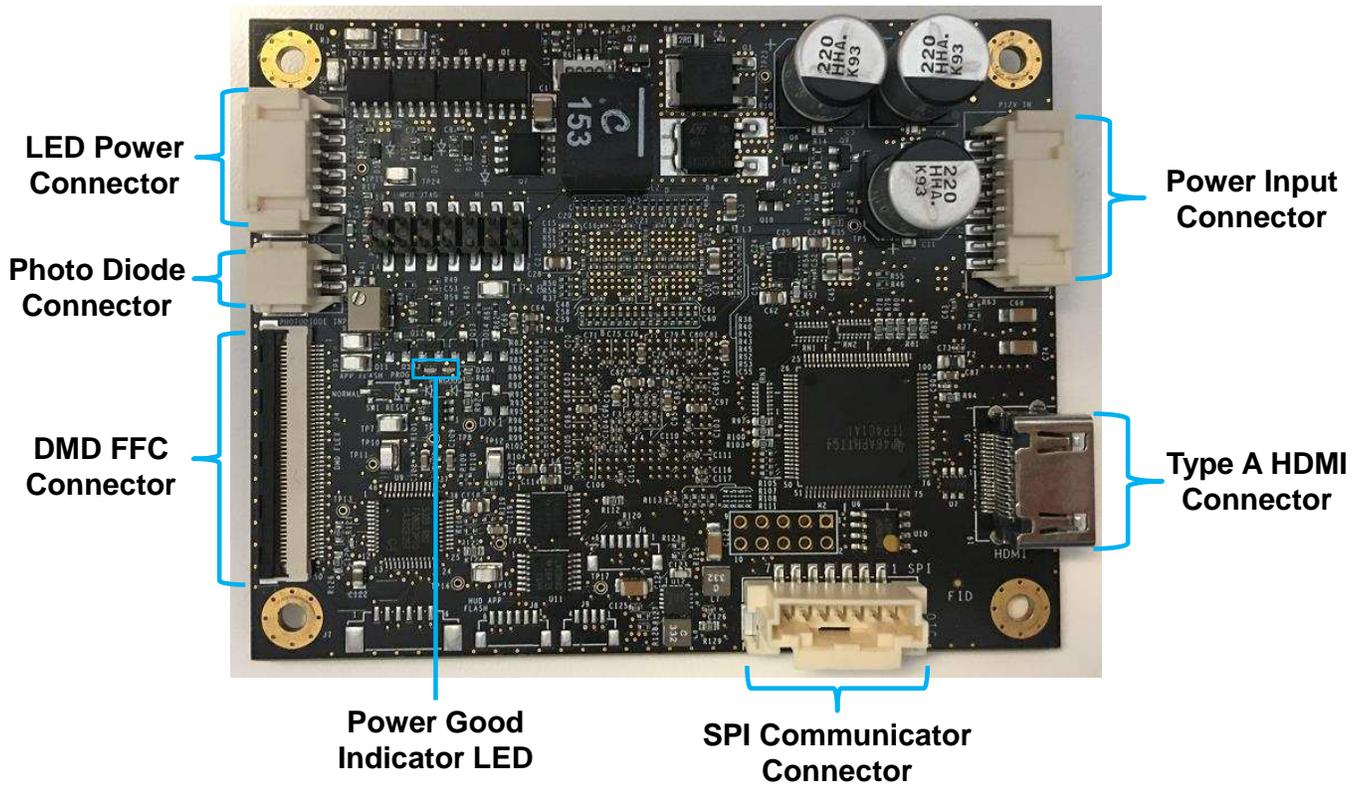

Figure 1-2. Formatter Controller Board Front
- Once the system is powered up, a green indicator light on the Formatter Board will illuminate, and the computer will detect an additional display called DLP_WVGA. See Figure 1-2 to locate the indicator LED.